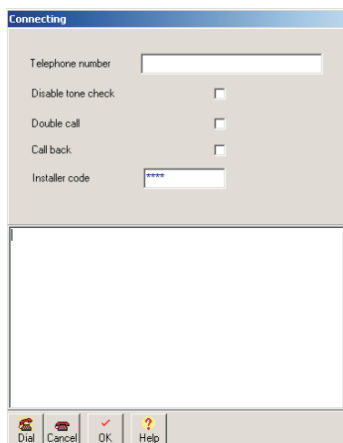

Figure 52 Connecting Window
3. Select **Connecting** from the **Modem** menu: this command will open the **Connecting** window (Figure 52).